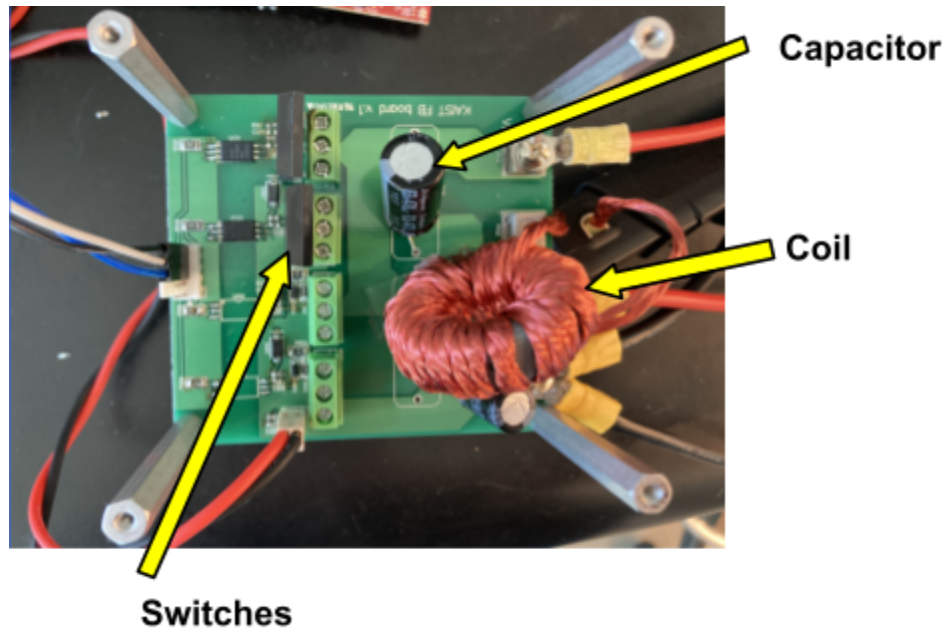
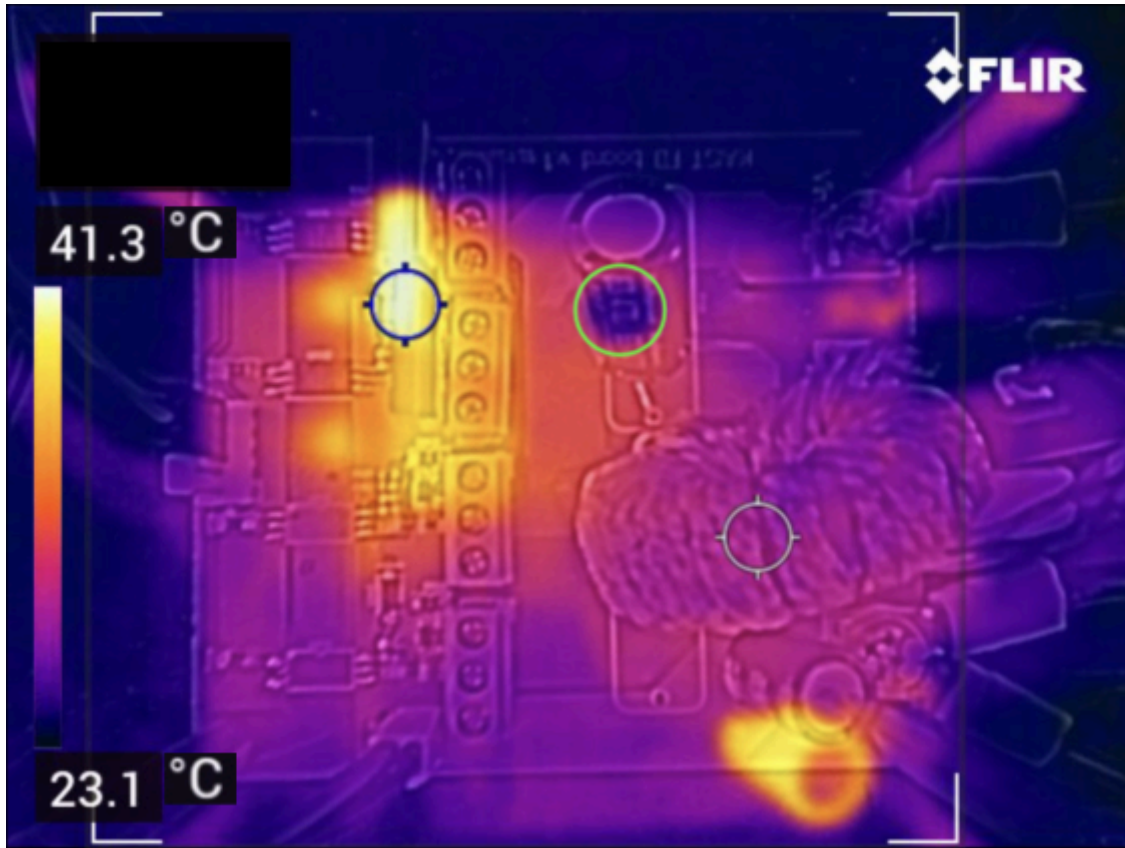

Figure 1: Image of buck converter
Figure 2: Image of buck converter taken during Test 2 (Infrared)
Dr. Jeong is an electrical engineer at the University of Rhode Island. He is testing the efficiency of a buck converter power conversion system. A buck converter changes the way electricity is transferred from the input component (like a D-cell) to the output component (like a bulb or motor). He is interested in learning more about the energy transfer in the system when two switches are being used. Some of the system components are labeled in the photo (Figure 1) from Dr. Jeong's lab below.
Task 2: Electrical engineers, like Dr. Jeong, use infrared cameras as tools to measure the heat energy transferred out of a system. Inefficient components will have a higher temperature due to energy loss in the form of heat. Dr. Jeong used an infrared camera to further investigate TEST 2 by analyzing the individual components. He wants to make the system as efficient as possible. Below is the infrared image (Figure 2) that Dr. Jeong took during TEST 2.
- Encourage students to use Figure 1 to identify highlighted components in Figure 2.
- Students will need to estimate the temperature of the components using the color scale on the left hand side of Figure 2. Answers will vary. See sample response below for guidance.